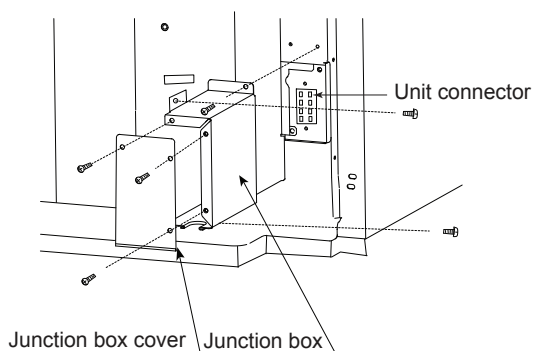

Fig. 13 – Junction Box Location
- Remove junction box cover by removing three screws from front. Remove junction box by taking out top, rear and side screws. See Fig. 13.